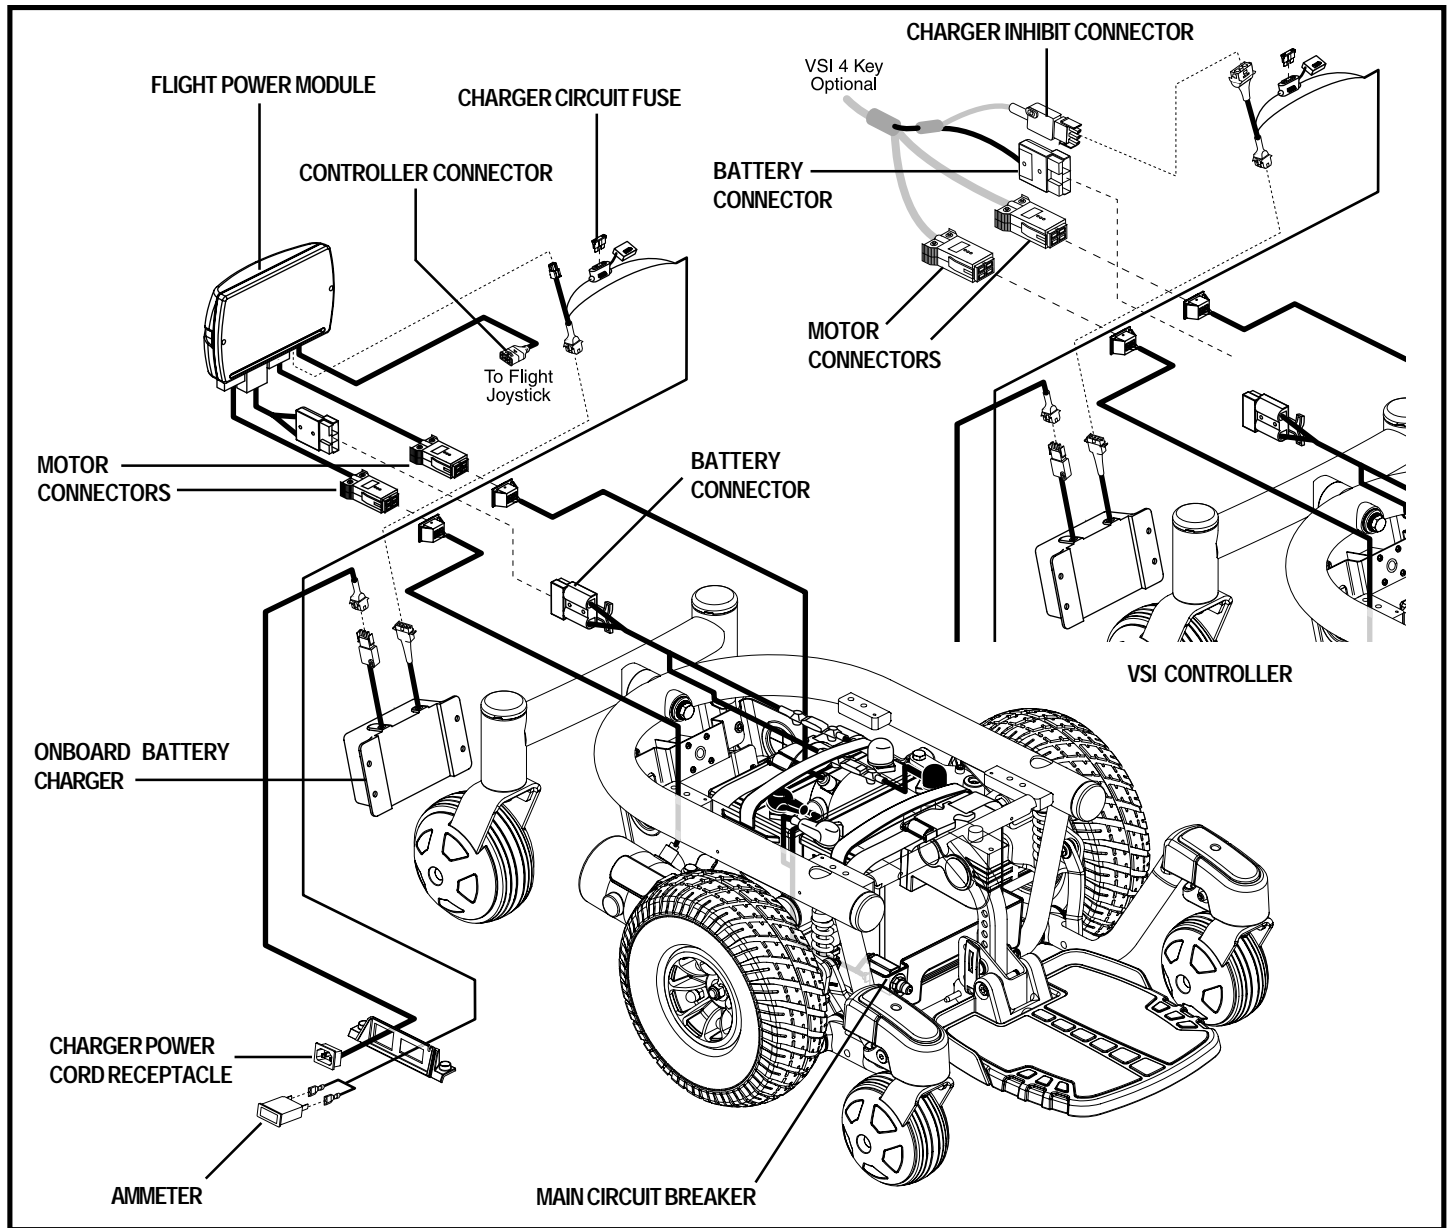

Figure 7. Jazzy 610 Electrical Components
The electrical components are located inside the power base. The ammeter and the charger power cord receptacle are located on the right side of the power base. The main circuit breaker is located on the front of the battery tray. The controller connector(s) are located inside the power base. See figure 7.
7. Plug the controller connector(s) into the power base. See figure 7.
3. Disconnect the controller connector(s) from the power base. See figure 7.